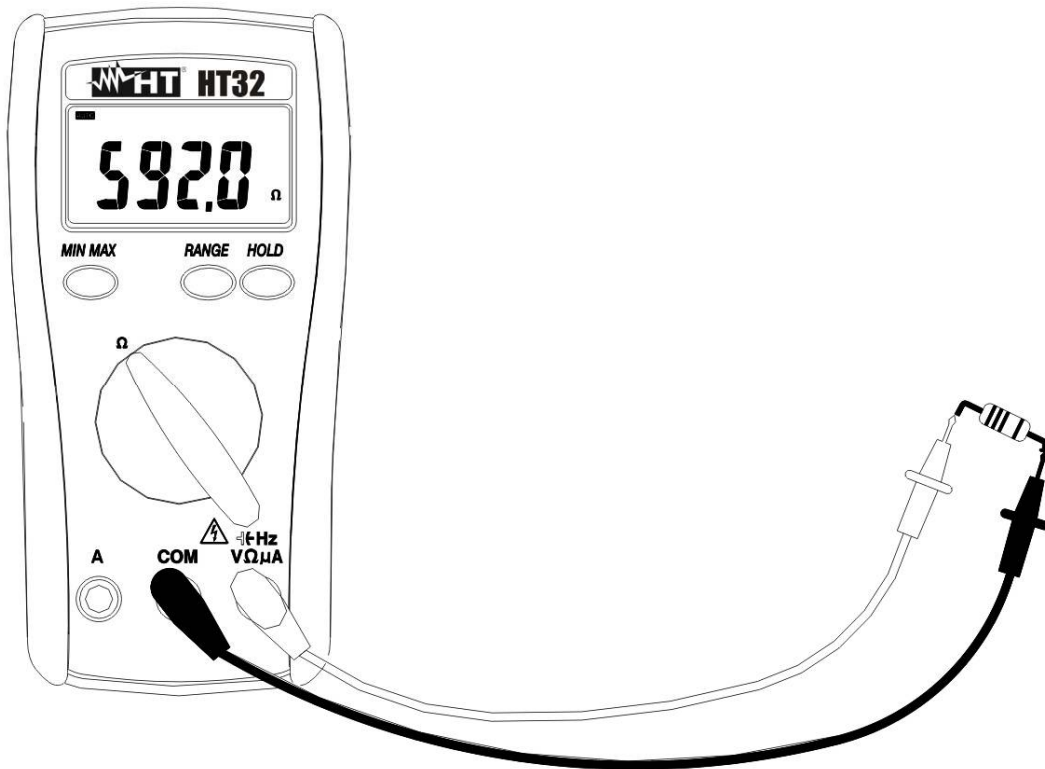

Fig. 7: Resistance measurement
2. Insert the test leads into the jacks, the red plug into $\rightarrow \text{HzV}\Omega\mu\text{A}$ jack and the black plug into **COM** jack (Fig. 7).